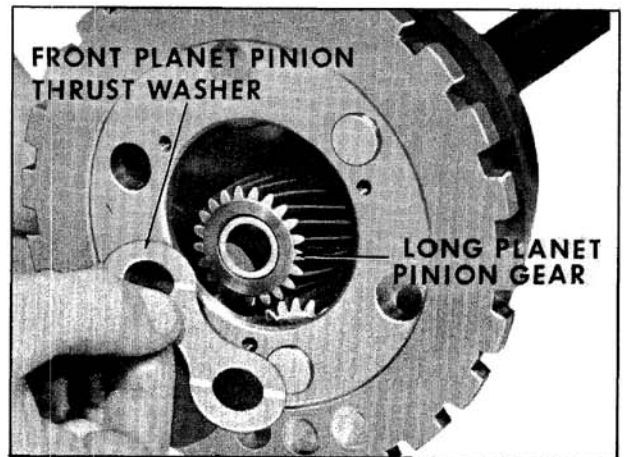

Fig. 6-460 Removing Long Planet Pinion Gear
8. Remove the long planet pinion shafts and long planet pinion gears. (Fig. 6-460)
9. Remove front planet pinion thrust washer. (Fig. 6-460)